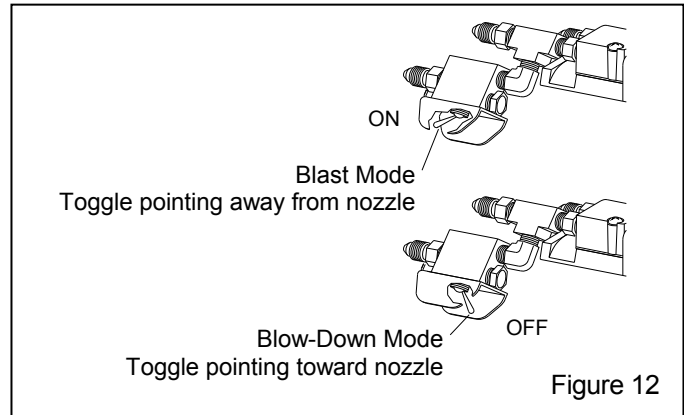

Figure 12
3.6.2.1 Blast Mode Moving the ACS toggle away from the nozzle to the "ON" ("CYL" port) position, as shown in Figure 12, sends control-air to the abrasive metering valve, opens the valve and the blast machine operates normally, with air and abrasive coming out the nozzle.